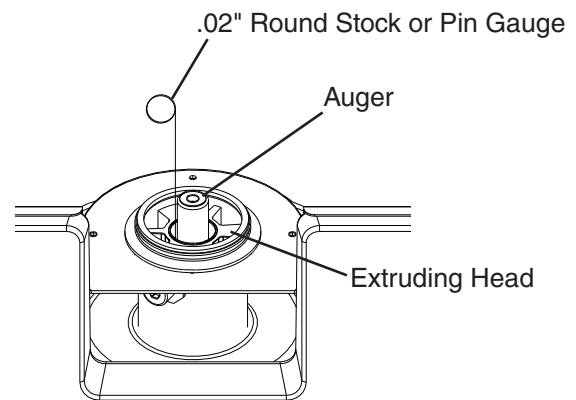

Fig. 11
- 7) Grasp the top of the auger and move the auger towards you and then try to insert a .02" round stock or pin gauge in between the back side of the auger shaft and the bearing surface. See Fig. 11. Check several locations around the auger shaft. If the gauge goes between the shaft and the bearing at any point or if the bearing is scratched or cracked, both the top bearing in the extruding head and the lower bearing in the housing should be replaced. Instructions for removing the extruding head and housing are located later in this procedure.